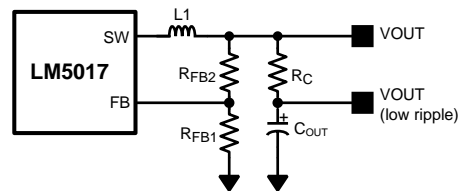

Figure 10. Low Ripple Output Configuration
This regulator regulates the output voltage based on ripple voltage at the feedback input, requiring a minimum amount of ESR for the output capacitor ( $C_{OUT}$ ). A minimum of 25 mV of ripple voltage at the feedback pin (FB) is required for the LM5017. In cases where the capacitor ESR is too small, additional series resistance may be required ( $R_C$  in Figure 10).
For applications where lower output voltage ripple is required the output can be taken directly from a low ESR output capacitor, as shown in Figure 10. However,  $R_C$  slightly degrades the load regulation.